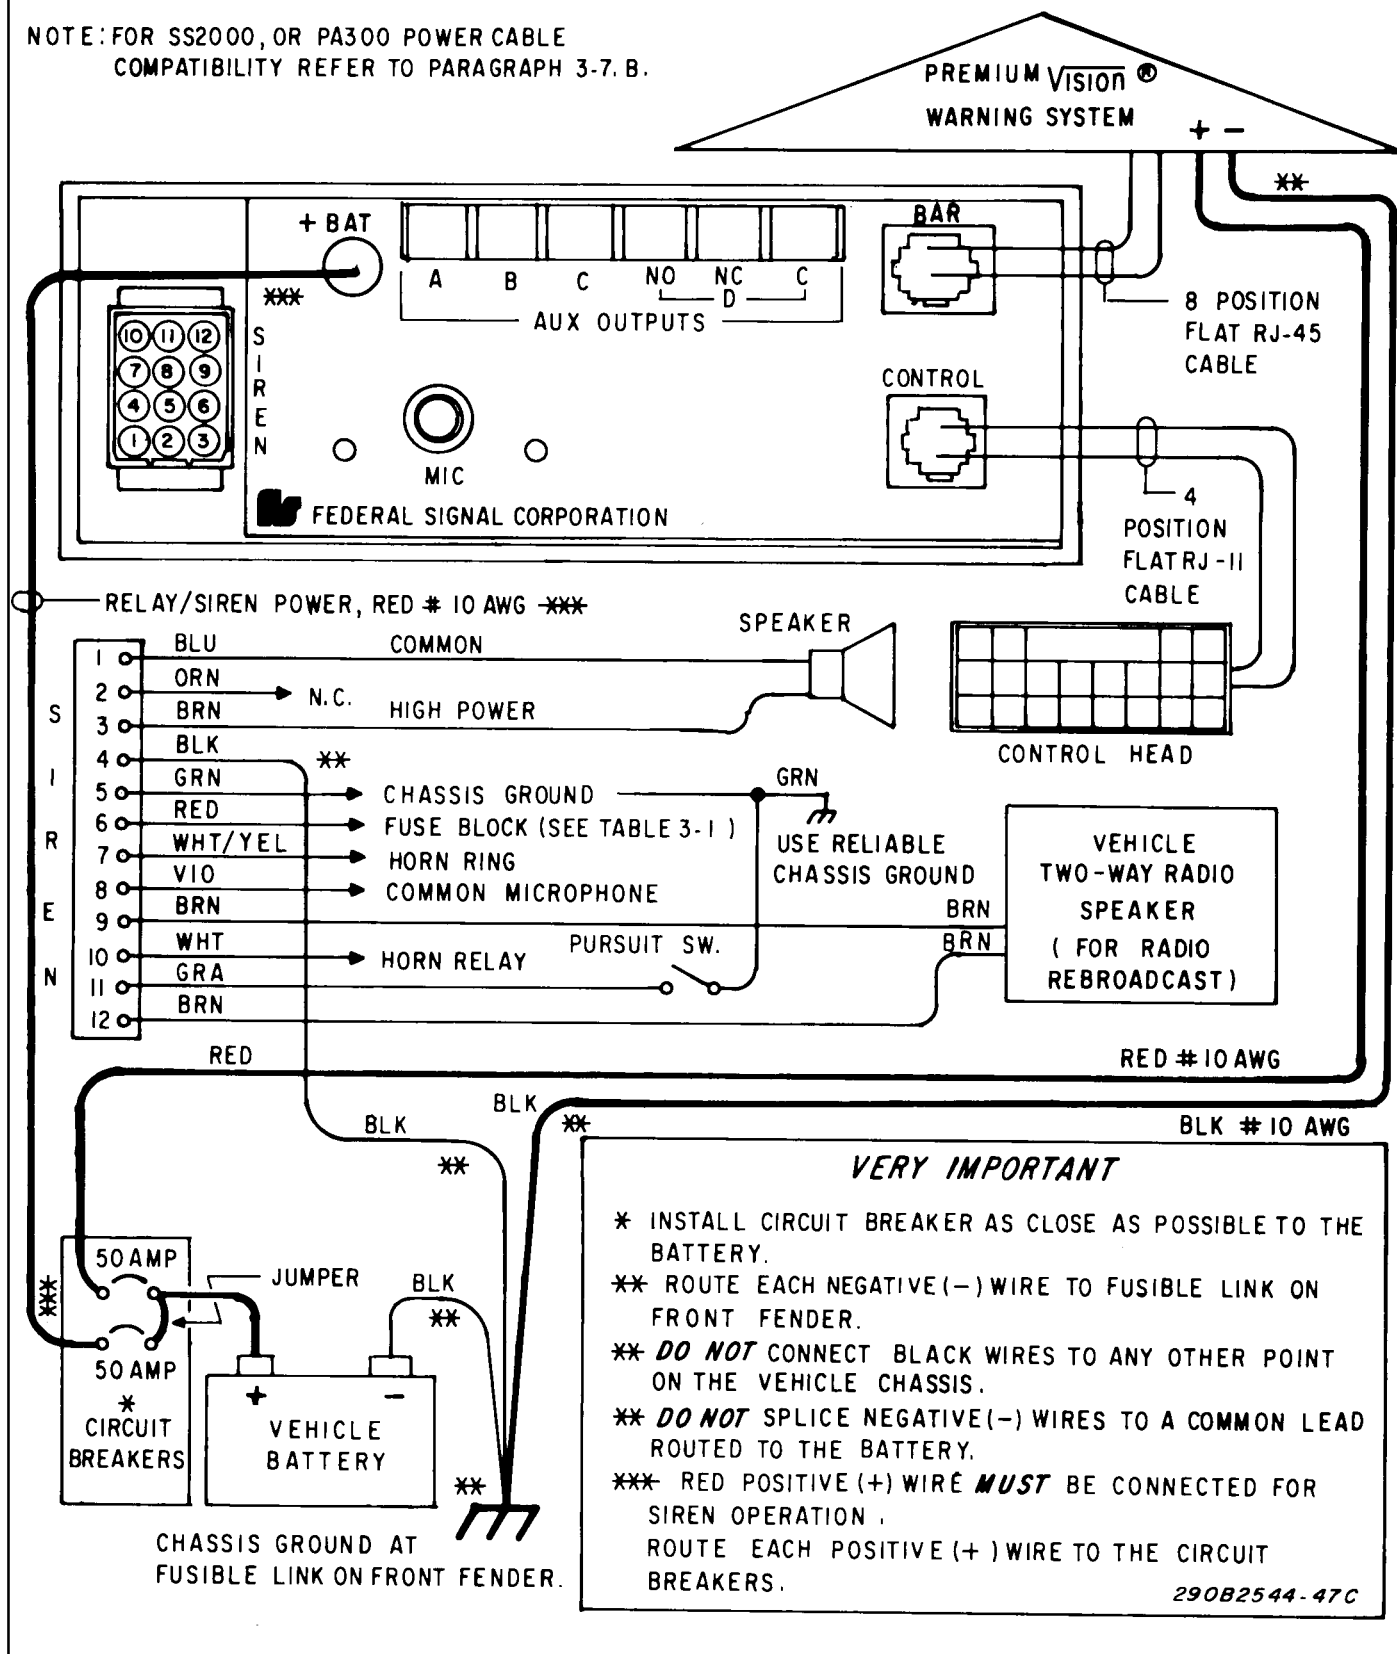
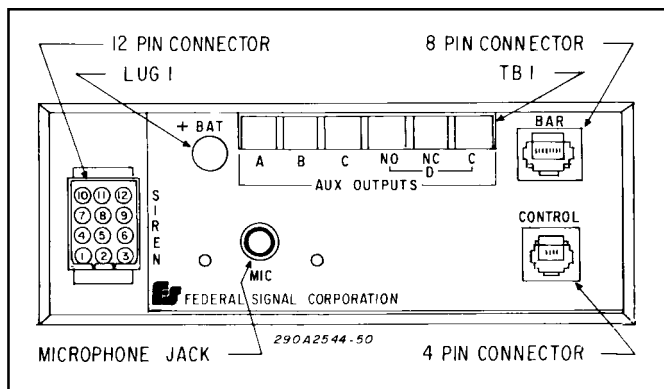

Figure 3-2. Block Wiring Diagram.
Figure 3-7. Rear View of Amplifier/Relay Unit.
Before performing any installation, see figure 3-2 (block wiring diagram); plan all wiring and cable routing. Ensure that the lightbar is installed on the vehicle roof in accordance with the instructions packed with the mounting kit.
To protect the wire, a separate circuit breaker must be connected as close as practical to the positive (+) battery terminal. FUSES ARE NOT ACCEPTABLE. See figures 3-2 and 3-6. Install the supplied two 50-ampere circuit breakers (Federal Part No. 8474176). DO NOT remove the jumper on the battery side of the circuit breakers. Connect the red wire to one of the 50-ampere circuit breakers.
The Amplifier/Relay Unit power cable, included in the carton, is equipped with a twelve-pin plug that mates with the connector on the rear of the Amplifier/Relay Unit (see figures 3-7 and 3-8). Additional wire (the same gauge or heavier) may be spliced to the leads as required. The Premium Vision's Amplifier/Relay Unit power cable is basically pin-compatible with the Federal SS2000 or PA300 power cable. Refer to chart 3-1 for compatibility considerations. A block wiring diagram is shown in figure 3-2. The various wires on the connector must be connected as follows:
5. See figures 3-7 and 3-10. Connect wires from the accessories to TB1 as applicable. Refer to the instructions packed with the accessories for proper wire gauge, current requirements, and any additional instructions.